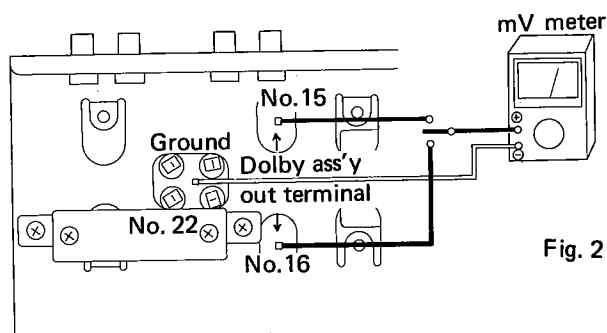
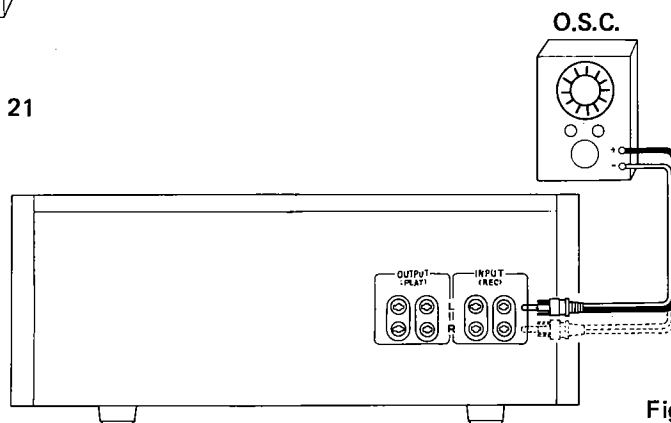

Fig. 21
Fig. 22
9.3 PLAYBACK LEVEL (Fig. 21)
9.4 0VU ADJUSTMENT (Fig. 21, Fig. 22)
9.9 RECORDING LEVEL (Fig. 21, Fig. 22)
9.12 LEVEL METER SCALE ACCURACY (Fig. 21)
- 9.13 DOLBY ADJUSTMENT (Fig. 21, Fig. 22)